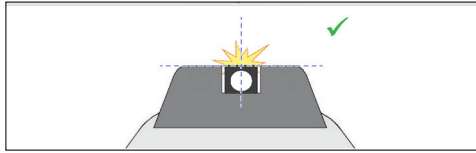
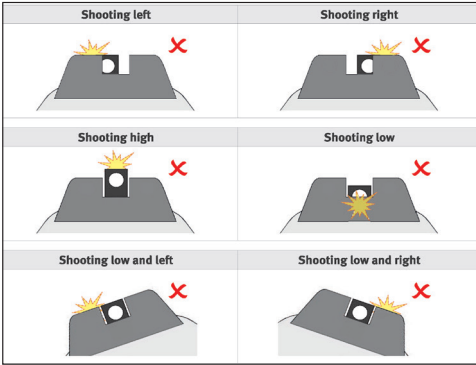

Figure 5 – Correct sight alignment
Figure 6 – Common sight alignment errors
The CC9 is equipped with a traditional sighting system. The sights are adjustable for windage by drifting. Sights are installed and aligned by HK technicians at the factory. Figure 5 shows correct sight alignment, generally for the CC9 series it is a center hold. Figure 6 shows common sight errors.
1. Acquire the proper sight alignment and sight picture (see Figure 5).